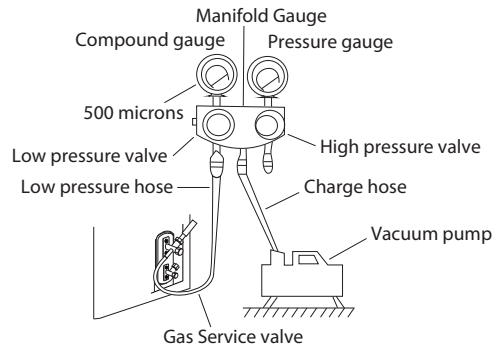
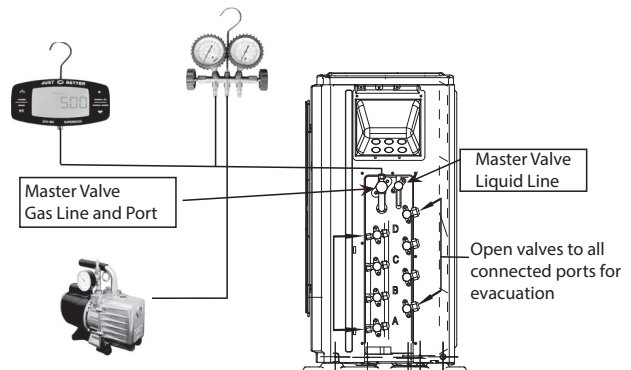

Fig. 25 — Manifold Gauge
Fig. 26 — Manifold Sizes 24-48
3. For size 18, connect the manifold gauge (low side hose) to the Individual Service Valve (5/16 port, use the adapter to fit a 1/4in hose) to evacuate each of the circuits. For sizes 24-48, connect the manifold gauge (low side hose) to the Master service valve (5/16 port, use the adapter to fit a 1/4in. hose) to evacuate all circuits at the same time (see Fig. 25).
5. Open (fully) the low pressure valve of the manifold gauge (see Fig. 25 for 18. Fig. 26 for sizes 24-48).